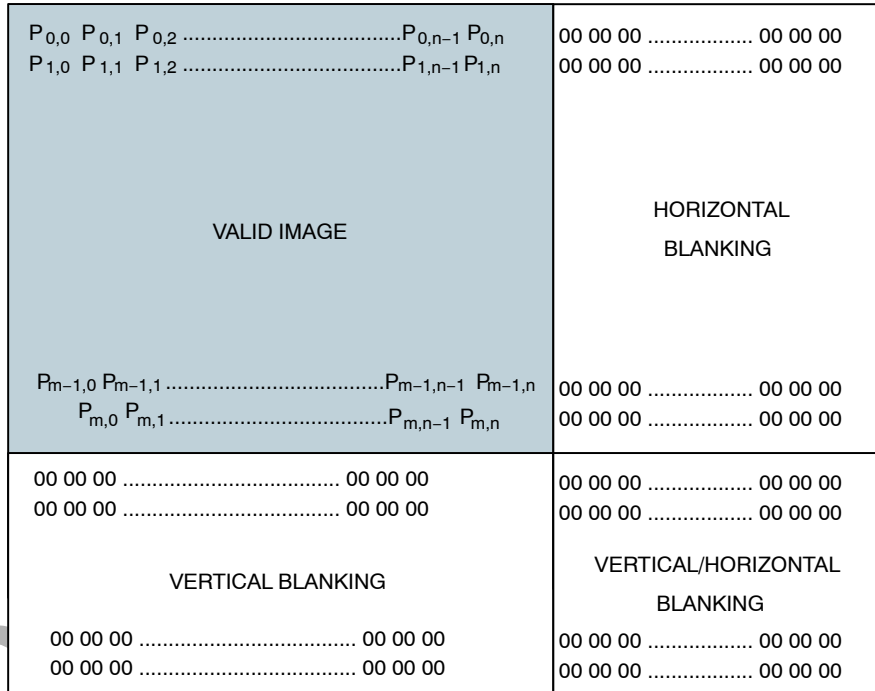

Figure 7. Spatial Illustration of Image Readout
The MT9M034 image data is read out in a progressive scan. Valid image data is surrounded by horizontal and vertical blanking (see Figure 7). The amount of horizontal row time (in clocks) is programmable through R0x300C. The amount of vertical frame time (in rows) is
programmable through R0x300A. Line_Valid (LV) is HIGH during the shaded region of Figure 7. Optional Embedded Register setup information and Histogram statistic information are available in first two and last row of image data.
Sensor timing is shown in terms of pixel clock cycles (see Figure 7). The recommended pixel clock frequency is 74.25 MHz. The vertical blanking and the total frame time equations assume that the integration time (coarse integration time plus fine integration time) is less than the number of active lines plus the blanking lines: